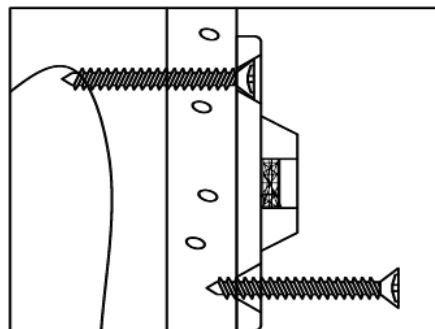
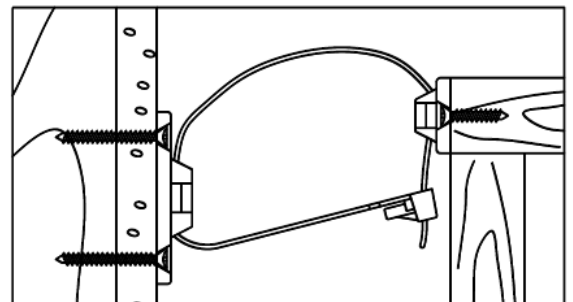

Figure 2
Figure 3
**3) MOUNTING THE WALL-SIDE BRACKET:** Position the wall-side bracket along the selected stud mark so that it will be adjacent the furniture-side bracket when the furniture item is moved to its final position. The wall-side bracket should be about ONE inch lower than the furniture-side bracket (See Figure 3). Use the TWO Long screws to secure the wall-side bracket to the wall. Remember to position the wall-side bracket vertically so that both screws will engage the selected wall stud (See Figure 2).